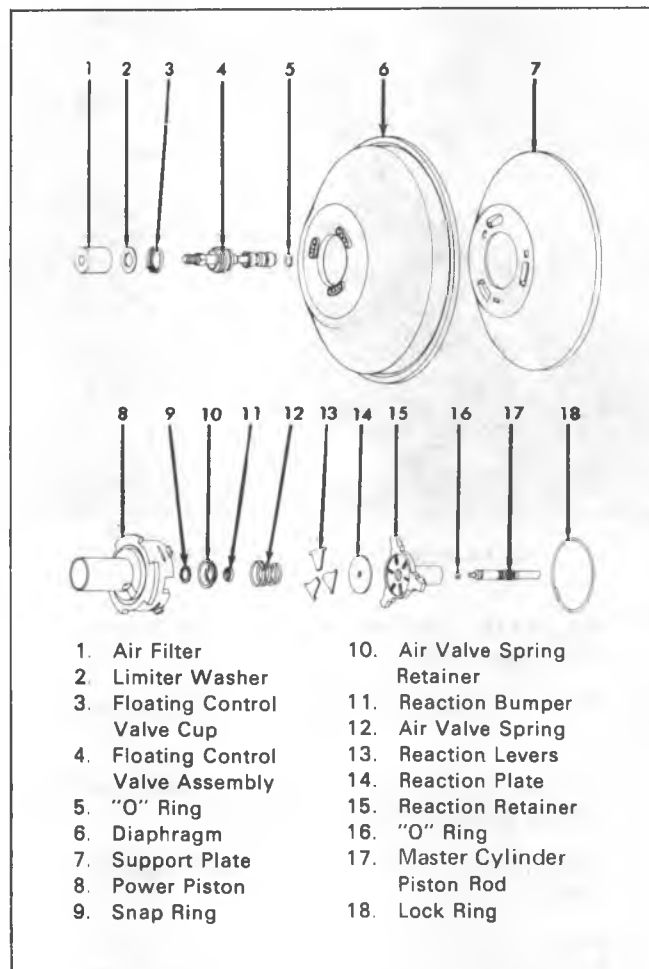

Fig. 3A-Power Piston and Components
**CAUTION:** Extreme care must be taken in handling the diaphragm of the power piston assembly (fig. 3A). The diaphragm should be guarded against grease, oil, foreign matter and must be protected from nicks, scratches and gouges.